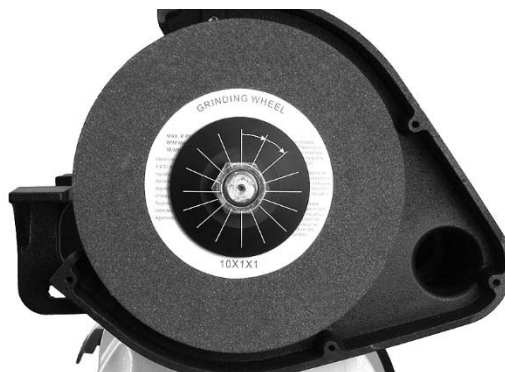

Figure 12: wheel balancing
2. If wobble still exists, continue repeating step 1, rotating outer flange incrementally in the same direction. See Figure 12. Make sure to keep the wheel in the same position each time.